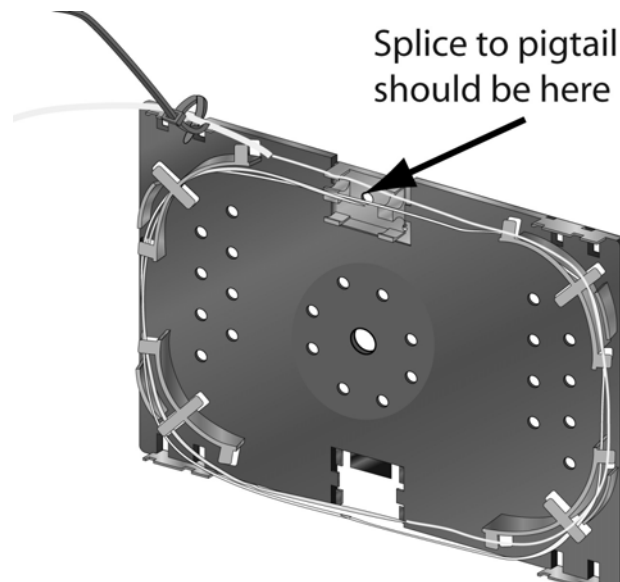

Figure 22. Setting the Fiber Cable in the Splice Tray
10. Route the fiber cable 2 times around the splice tray to the splice organizer and cut it to a length that will allow the splice to the pigtail be placed in the organizer, as shown in Figure 22.